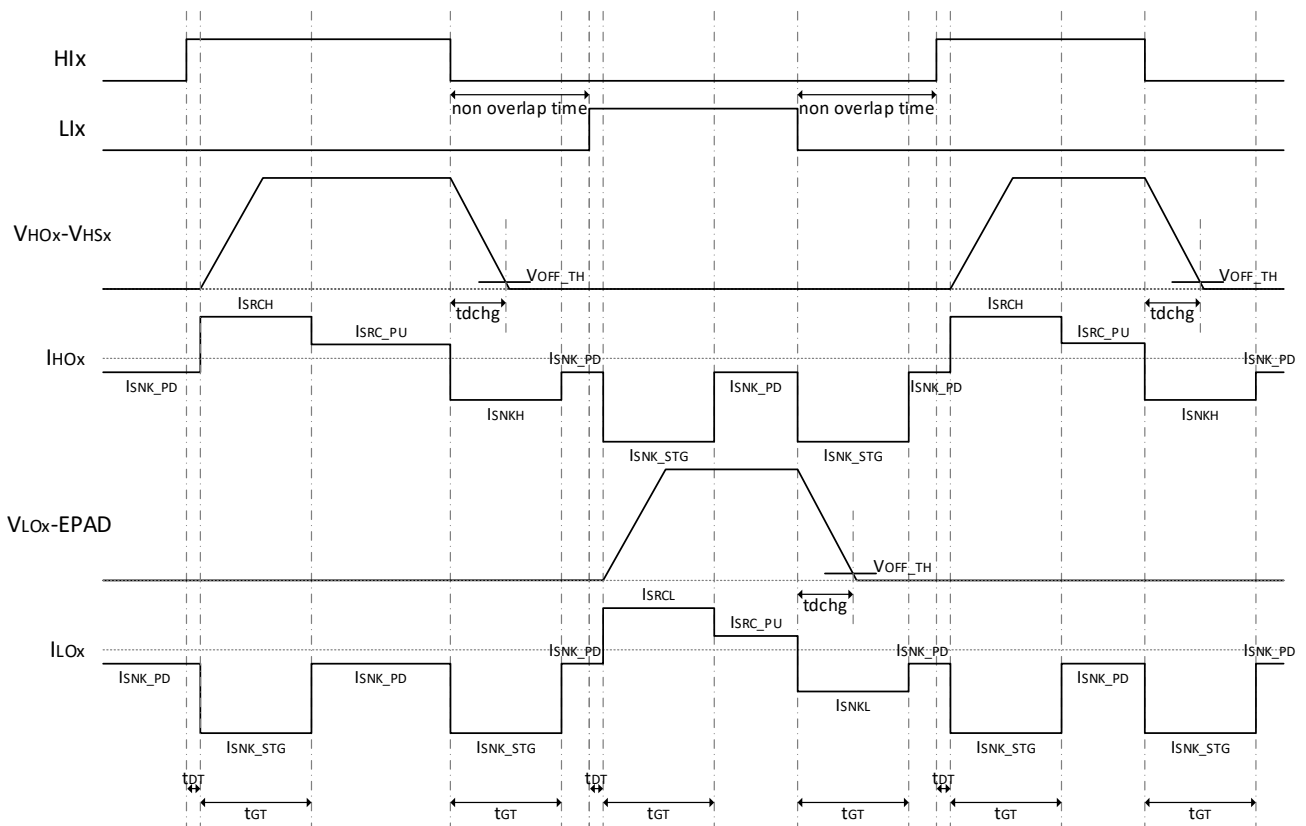

Figure 6.4-5 Gate Drive Timing Diagram with DIS\_SADT=1b if the HI/LI Inserted Dead Time is Longer than Maximum Gate Transition Time
**Note:** The inserted dead time should be shorter than the tGT setting in order to properly drive the MOSFETs. The duration of driver peak source/sink current is terminated after reaching the full tGT duration. Refer to Figure 6.4-5. And the inserted dead time must be longer than the MOSFET discharge time “tdchg” to avoid the shoot through current of the half-bridge MOSFET.
Figure 6.4-5 shows the gate drive timing diagram with DIS\_SADT=1b if the Hlx/Llx (x=A,B,C) inserted dead time is longer than maximum gate transition time (tGT). This case means: